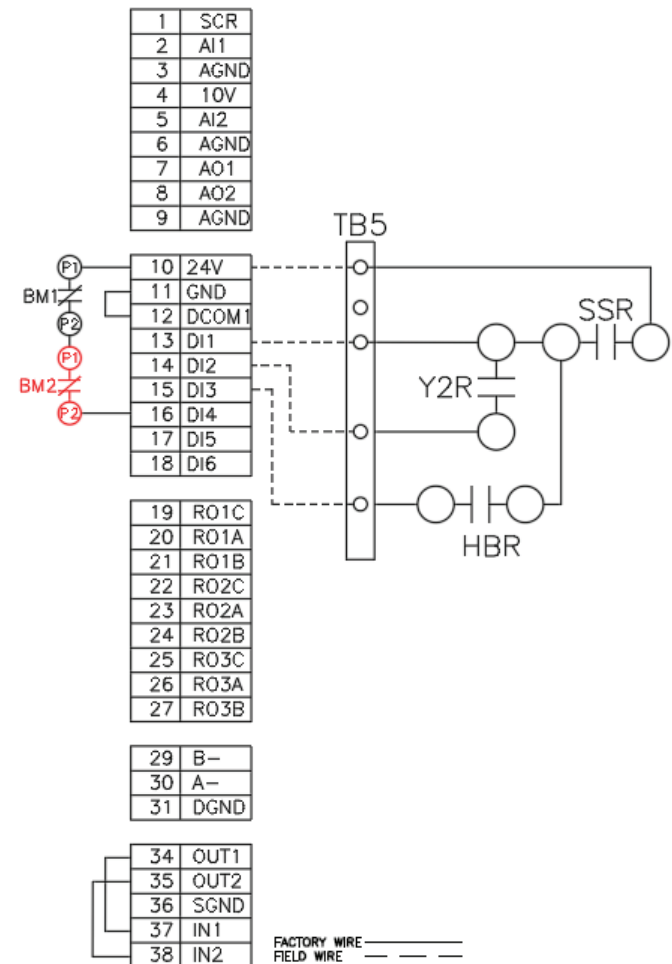

Fig. 67 — SAV VFD Field Control Wiring (50HQP Only)
2. Make the field wiring connections between VFD control terminals 10 (24V), 13 (DI1), 14 (DI2), 15 (DI3), and terminals block 5 (TB5) located in the electrical control box. See Fig. 67.